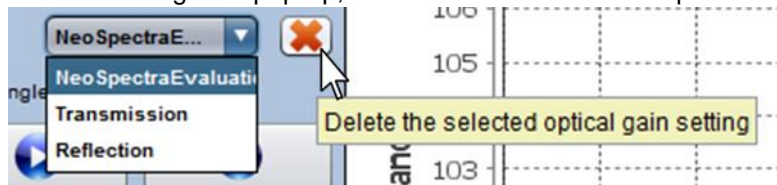

Figure 6.10: Deleting a created optical gain setting
2. Click on the delete button next to the drop down list (see Figure 6.10).